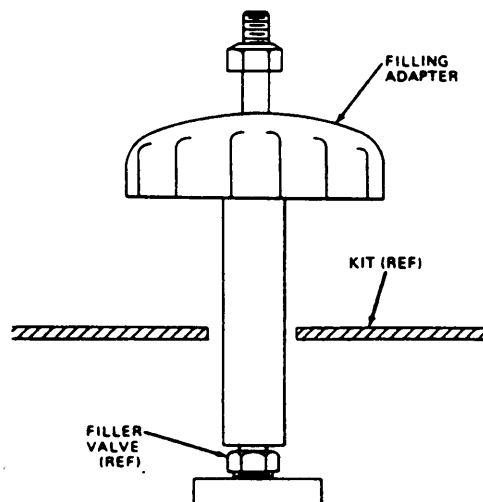

**Figure 7-9.—Filling adapter.**
2. Remove the oxygen filler valve cap and connect a filling adapter to the filler valve (fig. 7-9). If the emergency oxygen system is